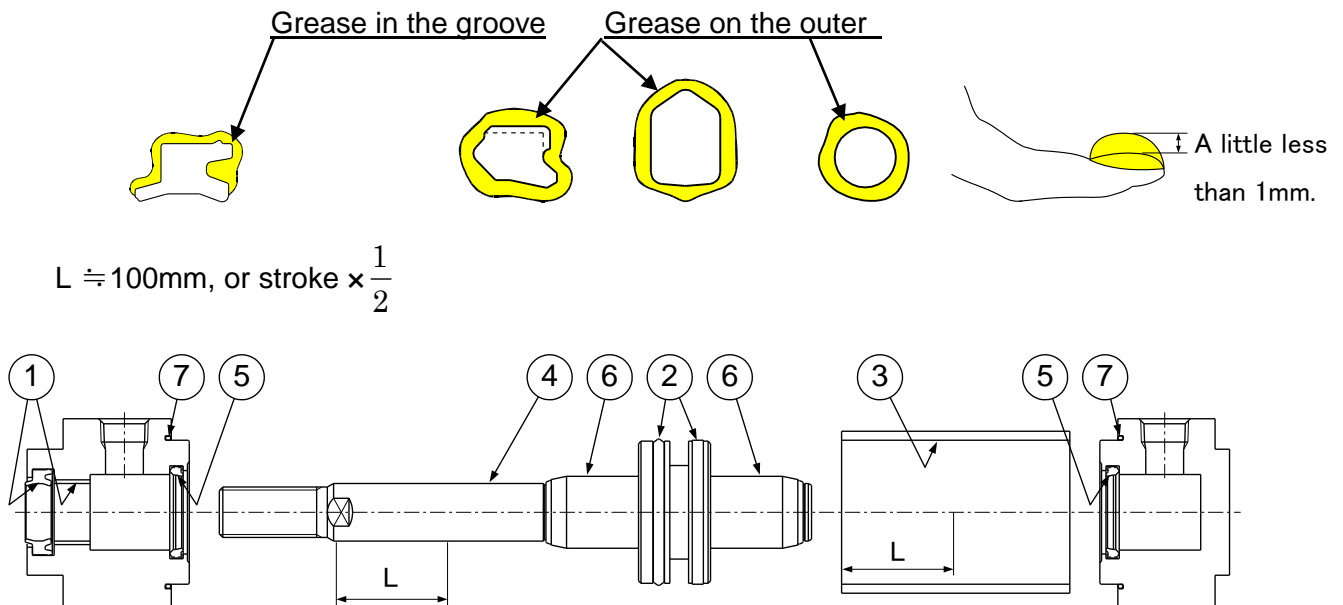

Fig. 14 Position for application of grease
Grease is applied to the locations shown in Fig. 14. The amount of grease per cylinder of 100 stroke is shown in attached table 9. Roughly, one scoop with a forefinger is approximately 3g.
1) Rod seal, Cushion seal (Fig.14, ① ⑤)
2) Piston seal (Fig. 14, ②)
3) Tube gasket (Fig. 14, ⑦)